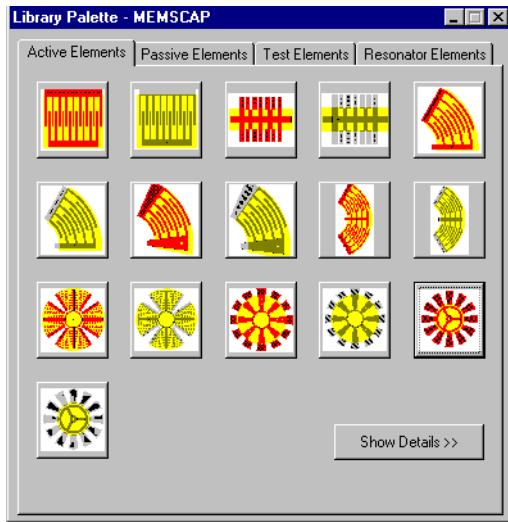

Figure 41: **Library Palette**
- Access the **Library Palette** (see Figure 41) by selecting **Library > Library Palette** in the **MEMS Pro Toolbar**.